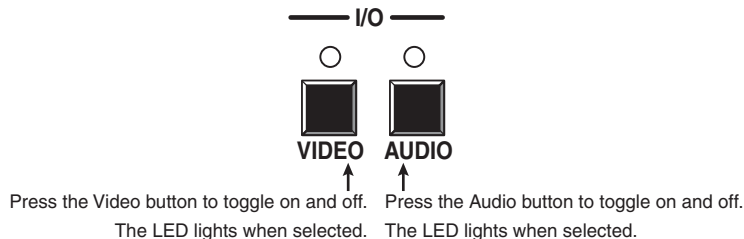

Figure 3-22 — Select video and audio
2. To select video and audio for the tie, if necessary, press and release the Video button and the Audio button until the LEDs light (figure 3-22).